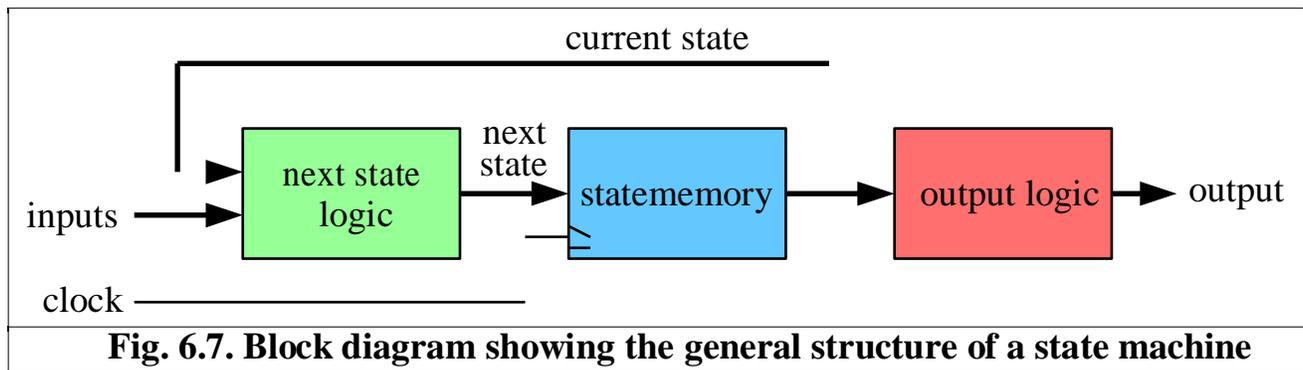

Fig. 6.7. Block diagram showing the general structure of a state machine
- each of the three blocks in figure 6.7